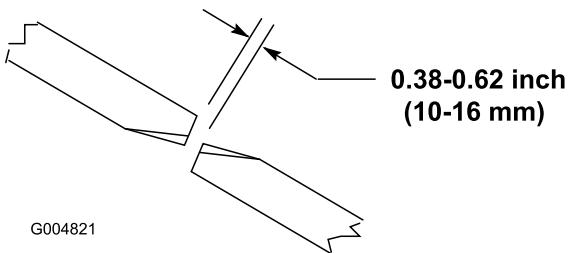

Figure 25
To ensure proper operation of the cutting unit, there must be 10-16 mm (0.38-0.62 inch) clearance between the tips of the wing and center cutting unit blades (Figure 25).
2. Rotate a center and adjoining wing blade so their blade tips are aligned. Measure distance between blade tips, distance should be approximately 10-16 mm (0.38-0.62 inch) (Figure 25).